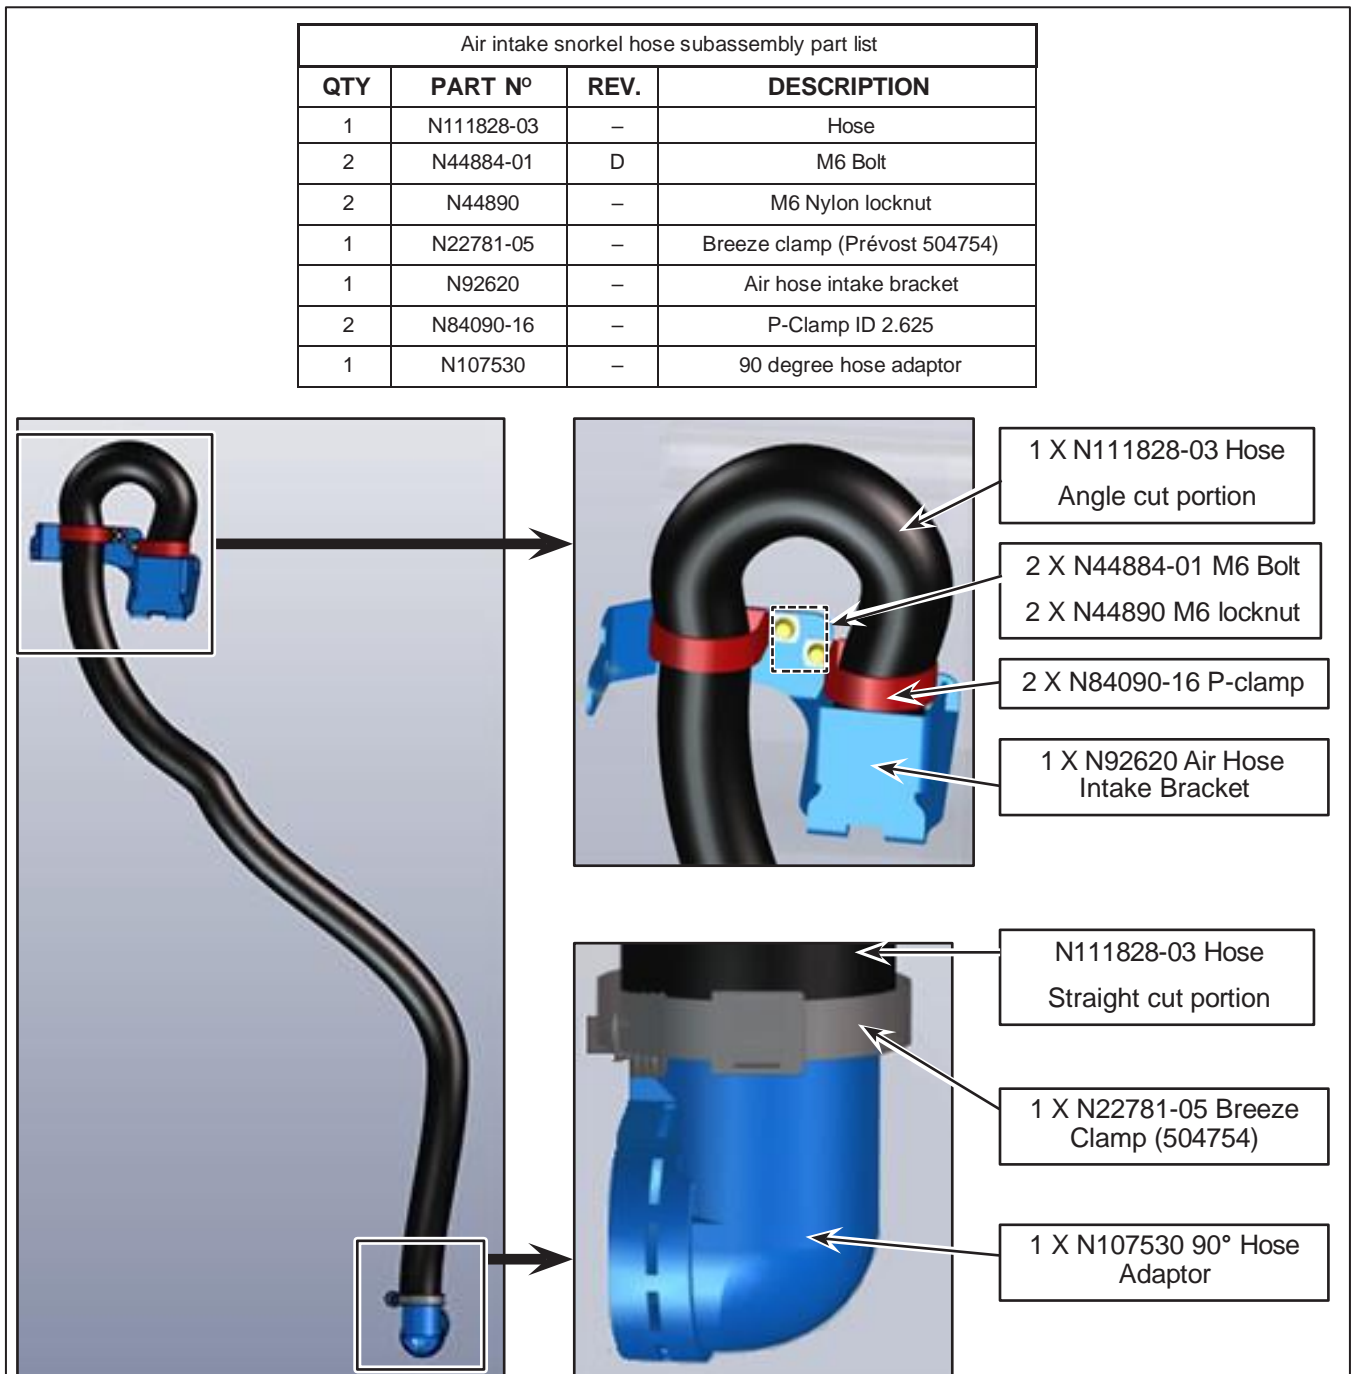

Figure 3 - Air Hose Snorkel Subassembly
1.6. Prepare the sub-assembly of the air intake snorkel hose. See Figure 3 for the list of material.